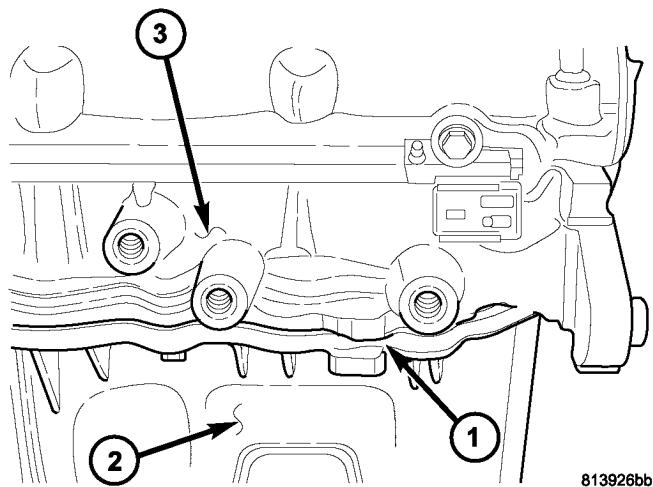

Fig. 91 Left Rear Pry Point
- (5) Remove bolts attaching oil pan.
- (6) Insert pry bar at specified locations (Fig. 89) (Fig. 90) (Fig. 91) and gently pry oil pan away from the engine.
- (7) Clean oil pan and block surfaces. Clean cured RTV from oil pan and bed plate with a plastic or brass scraper.
- (8) Clean all sealing surfaces with MOPAR® Brake Parts Cleaner.
- (9) Inspect surfaces for damage, replace as needed.